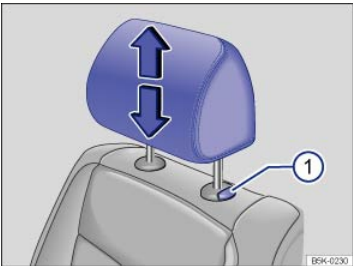
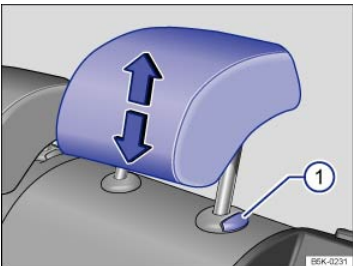

Fig. 44 Adjusting the front head restraints.
Fig. 45 Adjusting the rear head restraints.
- Push the head restraint up in the direction of the arrow or down when the button $\Rightarrow$ Fig. 44① or $\Rightarrow$ Fig. 45① is pressed $\Rightarrow$.